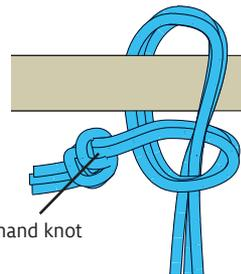

FIGURE 10: TIE ONTO BACK APRON BAR
**22.** Tie groups of warp ends about 1" wide in overhand knots across the entire warp. Then tie each group around the back apron bar and secure this second knot by tightening it up to the first knot (Figure 10).